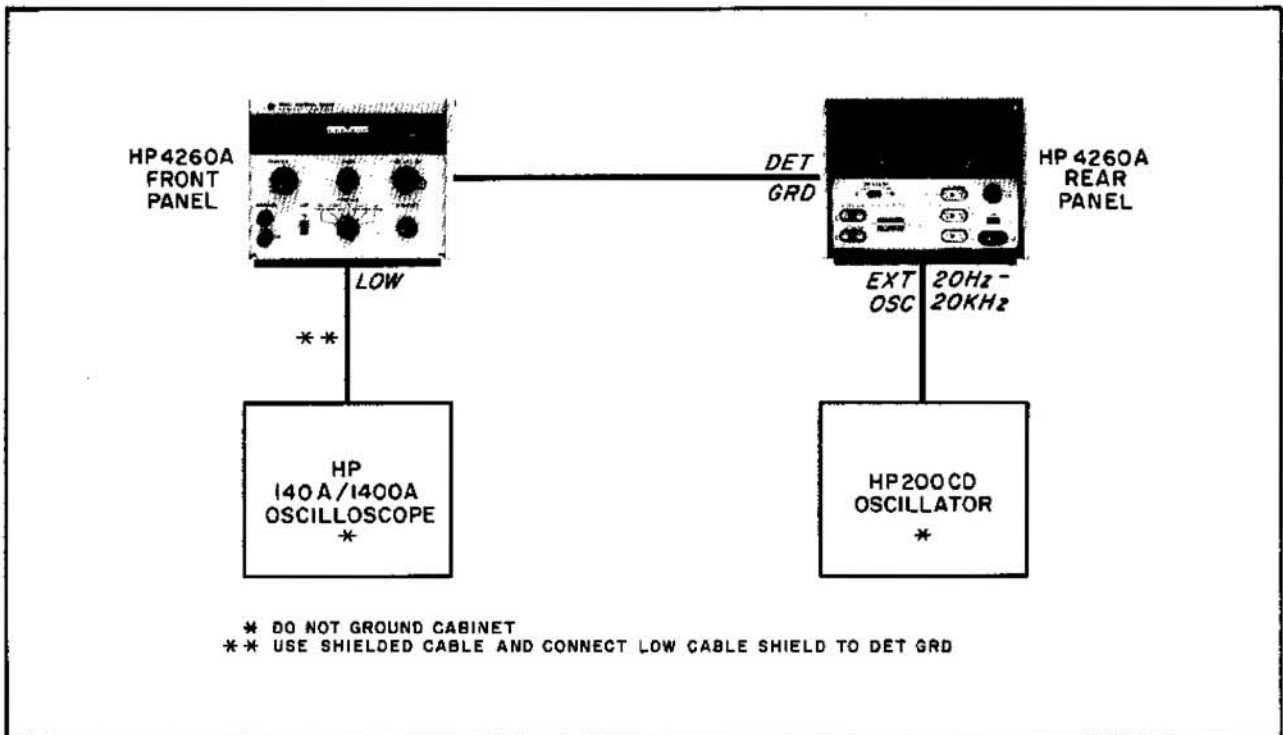

Figure 5-5. Test Setup for Adjustments
5-30. INTRODUCTION. The procedures in Paragraphs 5-31 through 5-38 outline checks and adjustments for the components in the bridge circuit. These include fixed 0.2  $\mu$ F capacitor C1, compensating capacitor C305, CRL resistor R3, trimmers C103, C104, C3, and accuracy of resistors in the RANGE switch. The test equipment setup is shown in Figure 5-5. These checks and adjustments should be performed in the order listed when a comprehensive overall instrument checkout is desired. Test equipment for these checks is listed in Table 5-6.
5-31. C1 CHECK. To check fixed bridge capacitor C1, connect the instruments as shown in Figure 5-5.
a. Connect the test setup as shown in Figure 5-5.
a. Connect test equipment setup as shown in Figure 5-5.
- a. Connect test equipment as shown in Figure 5-5.
- a. Connect test equipment setup as shown in Figure 5-5.
- a. Connect test setup as shown in Figure 5-5.